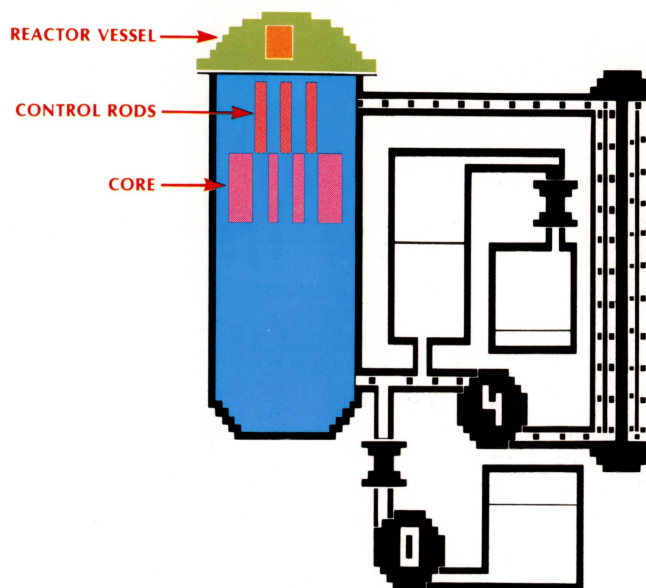

Figure 3. The Reactor
**Reactor.** The reactor (Figure 3) consists of the core, control rods, and reactor vessel. The **core** is a bundle of fuel rods stuffed with pellets of uranium fuel. Between the rods are spaces for circulation of cooling water and insertion of the control rods. A staggering amount of power can be generated by the core. A typical output is some 3 billion watts, which is equivalent to about 4 million horsepower. Even more astonishing is the concentration of power. All this power is concentrated in a reactor core that is not much bigger than a microbus. The core can keep triggering nuclear reactions and generating power for a year without additional fueling.